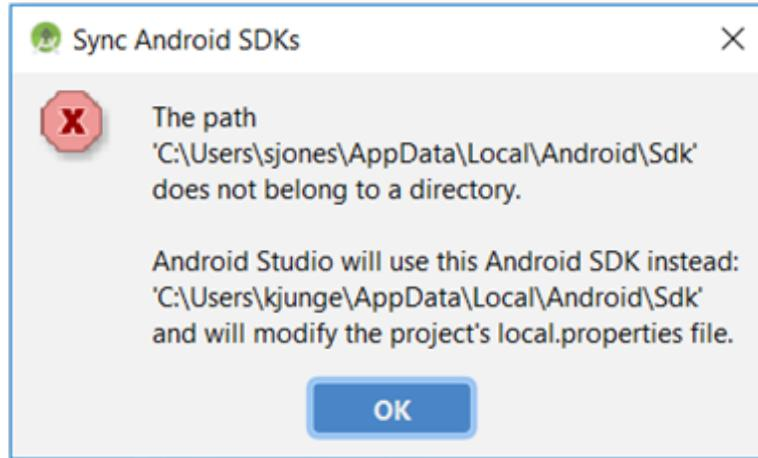

Figure 48, Sync Android SDKs
- h. Android may prompt to change the Android SDK path to reflect your local machine (Figure 48), Click OK.